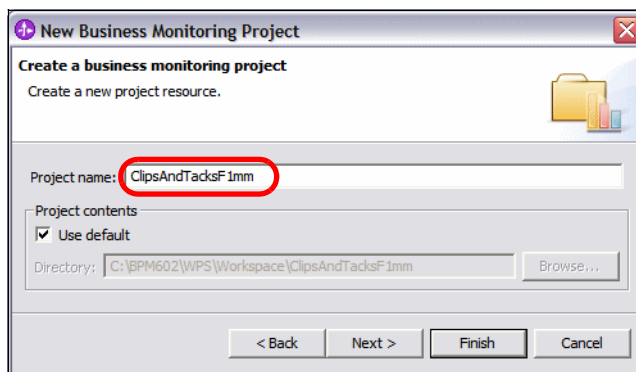

Figure 12-2 Create Business Monitoring Project
- ▶ In the Project Explorer, select *New* → *Business Monitoring Project*. Enter *ClipsAndTacksF1mm* as project name and click *Finish*. (Figure 12-2).